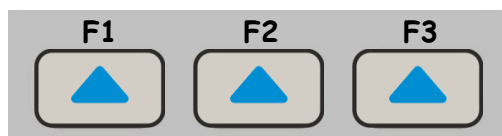

Figure 12
- Functional keys  (F) perform various functions depending on the selected operation mode of the instrument. Name of the current function is displayed under each key. The number of the functional keys in this operation manual are as follows, from left to right: **F1**, **F2**, **F3** (Figure 12).